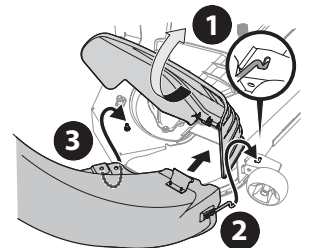

Figure 22
- Raise the chute deflector (1 in Figure 22) on the deck and hold it while you position the boot over the chute opening.
- Insert the end of the boot (2) into the hole provided in the deck wheel mount as shown in the inset of Figure 22.
- Pivot the boot until the hole in the boot aligns with the pin on the deck. Move the boot down onto that pin as shown in (3) of Figure 22.